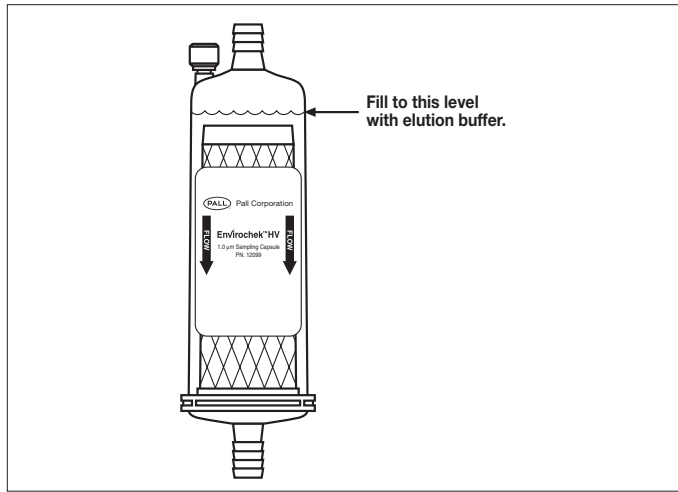

Figure 3: Elution buffer level
- 3.6 Add elution buffer to the inlet end of the capsule and allow liquid level to stabilize. Sufficient elution buffer should be added to the capsule to ensure the covering of the pleated white filter module by approximately 13 mm (0.5 in.) (see Figure 3). Replace the vinyl end cap to the inlet end of the capsule.
- 3.10 Add new elution buffer to the inlet end of the capsule and allow liquid level to stabilize. Sufficient elution buffer should be added to the capsule to ensure the covering of the pleated white filter module by approximately 13 mm (0.5 in.) (see Figure 3). Replace the vinyl end cap to the inlet end of the capsule.